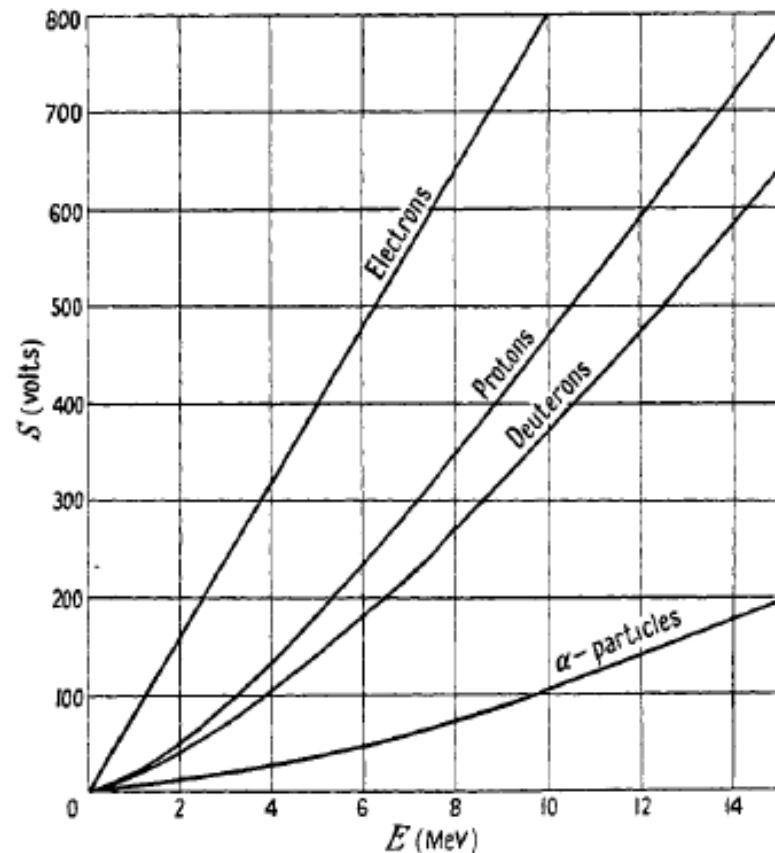

Figure 3. Relative scintillation response S of anthracene to particles of energy E .
- Figure 3 shows show the total light yield varies for different particles.